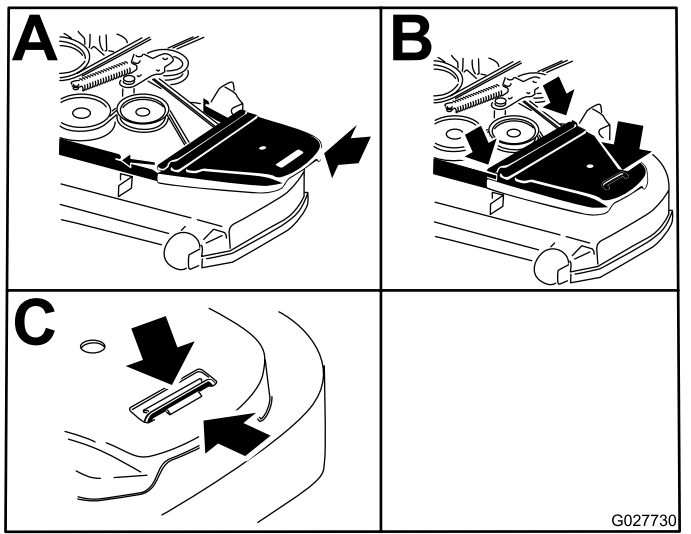

Figure 61
15. Install the belt covers (Figure 61).